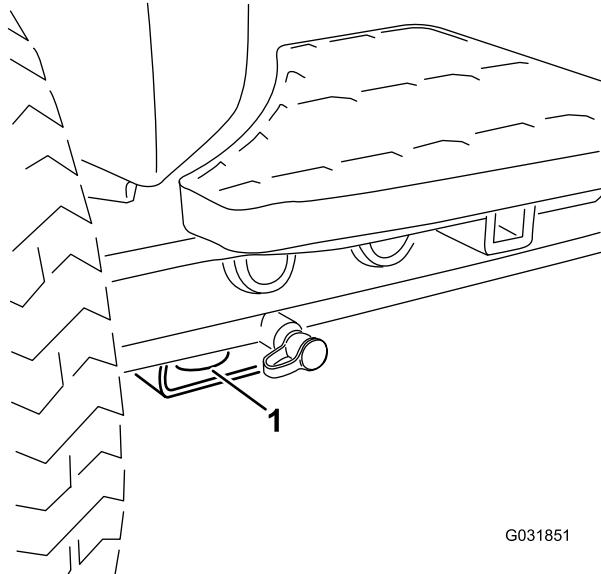

Figure 60
- **Front of the machine**—the hole in the rectangular pad, under the axle tube, inside each front tire (Figure 60).